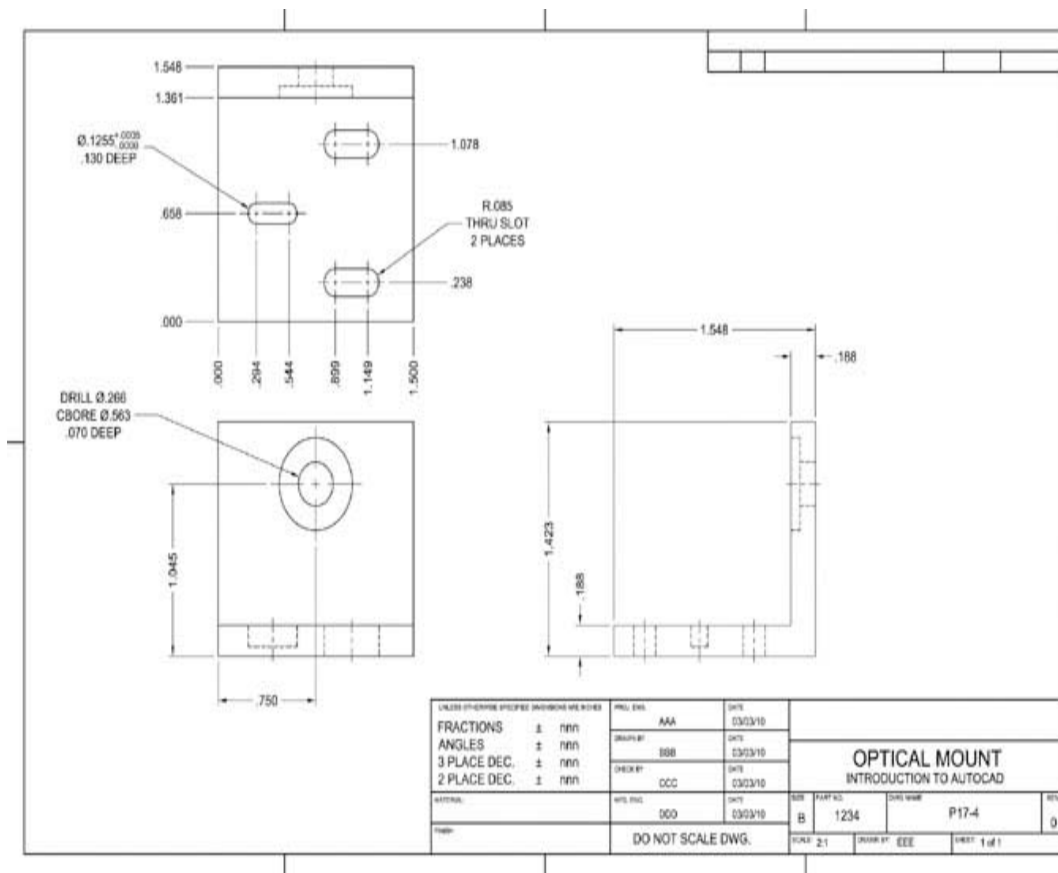

Figure 17-53
- d. Insert the drawing **Title Attributes Mechanical B-Size.dwg** as a block. Place the block at **0,0** at a scale of **1** and a rotation angle of **0**. Enter appropriate values for the title block attributes. Your drawing should look like Figure 17-53.